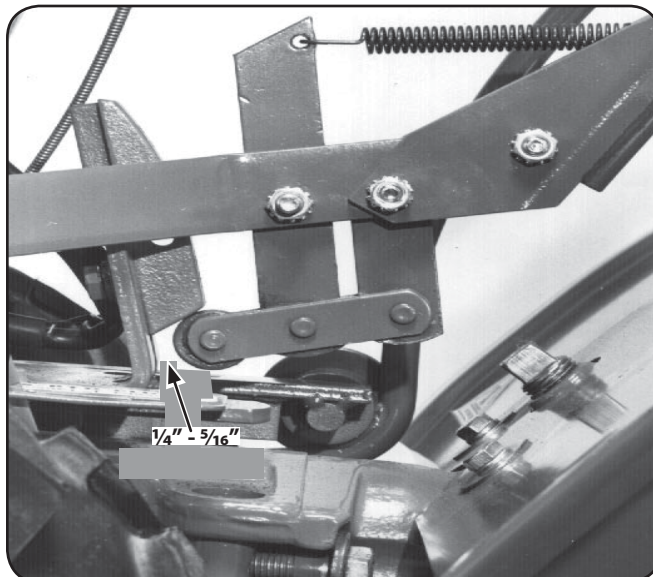

Figure 6-13
2. Move the Wheels/Tines/PTO Drive Lever fully down to the FORWARD position. The clutch roller at the bottom of the lever should be positioned underneath the belt adjustment block. See Fig. 6-13. Don't let the clutch roller move during the next few steps. If it moves, you'll get a false belt tension reading.
3. The belt tension is correct if the front of the clutch roller is $\frac{1}{4}$ "-to- $\frac{5}{16}$ " away from the face of the upright bracket that holds the adjustment block in place. See Fig. 6-13. To measure this distance: